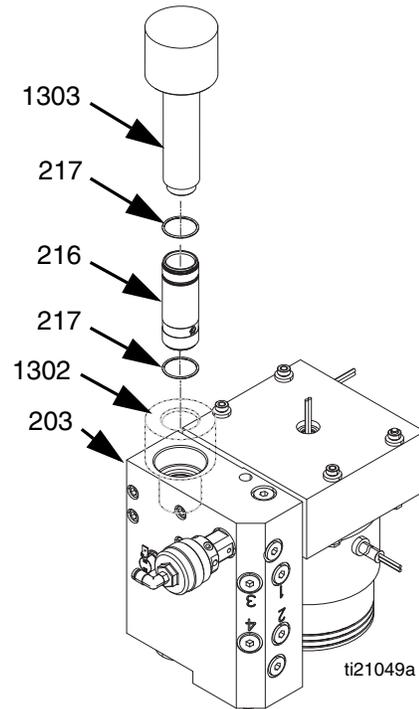

FIG. 34
2. Place female cylinder installation tool (1302) into melter outlet manifold (203) to protect seals from sharp threads. See FIG. 34.